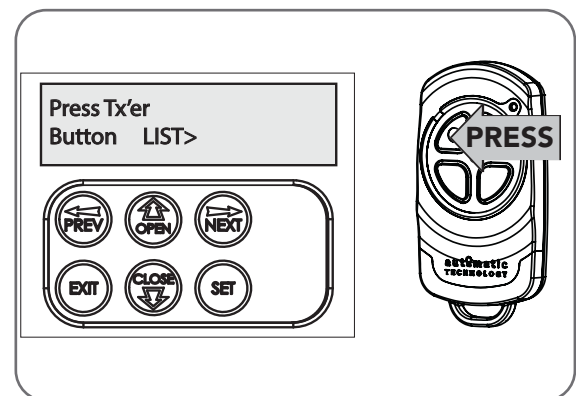

Fig 10.2
- Press one of the four (4) buttons on the transmitter for two (2) seconds, pause for two (2) seconds, then press the same button again for two (2) seconds (**Fig. 10.2**).